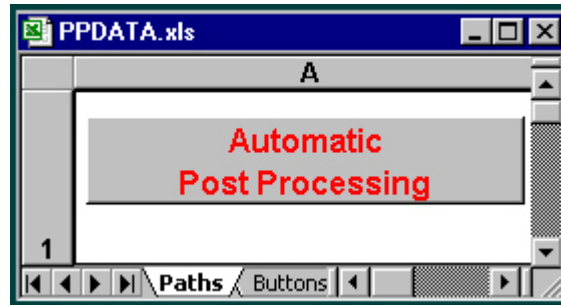

Figure 34
- 603 In the "PPDATA.xls" dialog box, click on the "Automatic Post Processing" button. See Figure 34.